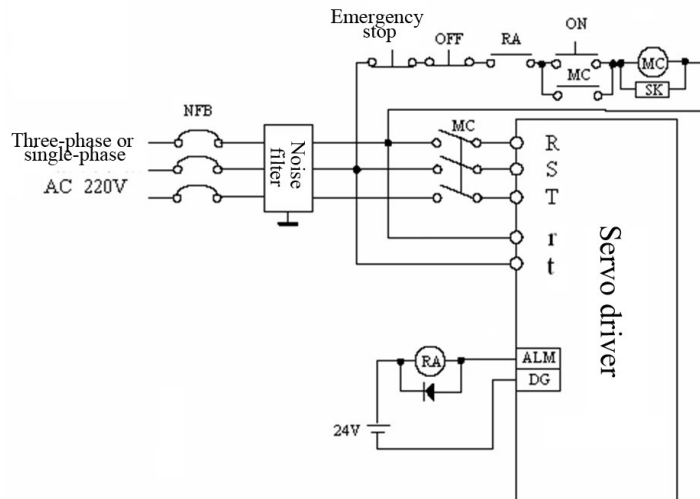

Figure 8-1 "Power-ON" wiring diagram
Please refer to Figure 8-1 for power-ON circuit and the following descriptions for its operation sequence:
2) Connect input power to "r" and "t" of the control circuit, parallel to the power section input terminals, or before the main circuit contactor contacts, as in fig. 8-1. If only the control circuit input supply is connected, the servo ready signal (SRDY) is OFF.